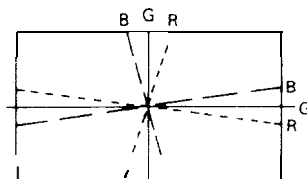

Figure 3-7.
- Convergence in Fig. 3-7.:
Insert wedge (a) between the deflection yoke and CRT, and tilt the deflection yoke upward until the mis-convergence shown in Fig. 3-7. is corrected.